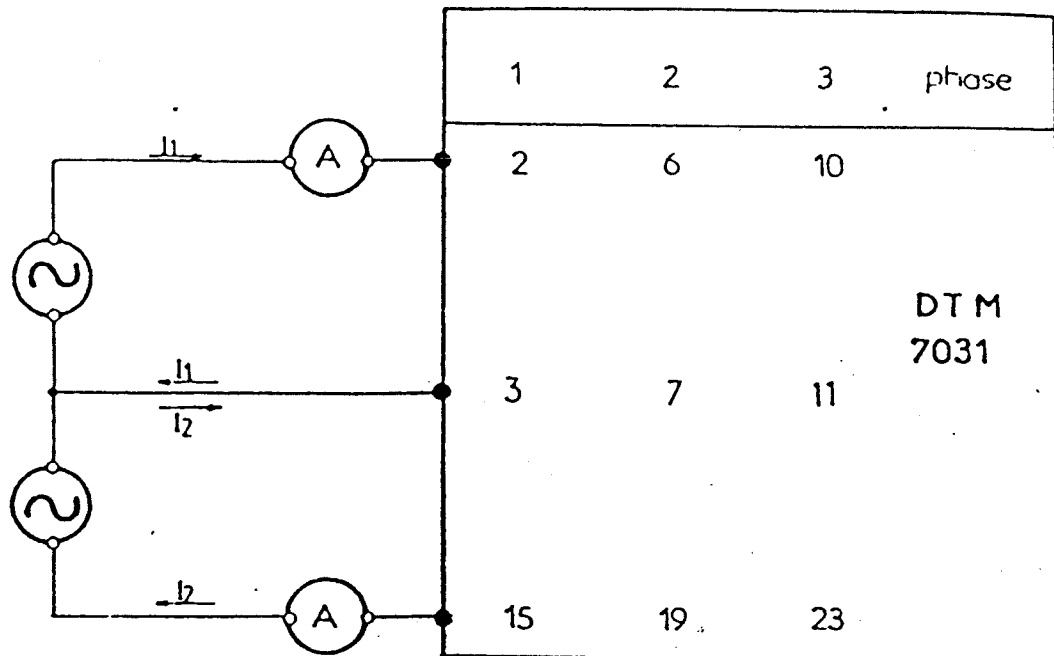

FIG. 1
3.4.4.1 - If two current sources are available, connect up the circuit shown in fig. 1, successively on each of the three phases.